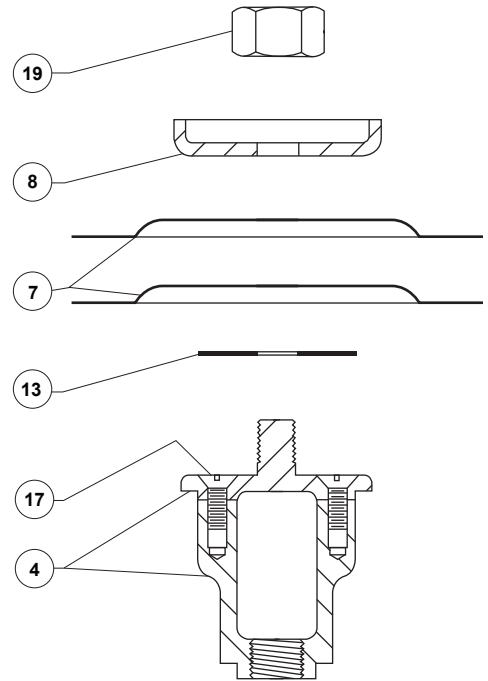

Figure 5. Exploded View of The Diaphragm Head Assembly and Yoke
1. Loosen the locknut (key 18).
2. Turn the adjusting screw (key 15) counterclockwise to remove spring compression.
3. Remove the bottom cap (key 3), bottom cap O-ring (key 14) and spring (key 10).
4. Unthread the valve disk assembly (key 6) from the yoke (key 4).
5. Remove the valve disk collar (key 22) from the valve disk assembly.
6. Remove the spring case cap screws (key 16), and separate the spring case (key 2) from the body (key 1).
8. Refer to Figure 5. Unscrew the diaphragm locknut (key 19), and remove the diaphragm plate (key 8), the two diaphragms (key 7) and the diaphragm plate gasket (key 13).
9. Remove the screws (key 17) from the yoke, and take the lower and upper halves of the yoke out
1. Screw the orifice (key 5) into the regulator.
2. Insert both halves of the yoke (key 4) into the regulator, and fasten them together with the screws (key 17). The yoke halves are a matched set and need to be kept together.
3. The valve disk assembly (key 6) has two valve disks, one on each end. Inspect both valve disks, and select the one to be used. Thread the valve disk assembly into the yoke so that the disk to be used is positioned against the orifice. Thread the valve disk collar (key 22) onto the exposed end of the valve disk assembly.
4. Place the bottom cap O-ring (key 14) on the bottom cap (key 3). Place the spring (key 10) in the bottom cap, and thread it into the regulator.
5. Put the body gasket (key 12) on the regulator body (key 1).
6. Refer to Figure 5. Place the diaphragm plate gasket (key 13), two diaphragms (key 7), and the diaphragm plate (key 8) on the yoke (key 4). Make sure the diaphragm convolutions are toward the spring, and secure the parts by threading the diaphragm locknut (key 19) onto the yoke.
7. Place the regulator spring (key 11) and upper spring seat (key 9) on the diaphragm plate.
8. Position the spring case (key 2) over the spring and on the regulator body. Orient the spring case vent or vents as necessary. Insert the cap screws (key 16), and tighten them only finger-tight.
9. Thread the adjusting screw and locknut (keys 15 and 18) into the spring case just far enough to slightly compress the spring. Securely tighten the cap screws (key 16), and refer to the Startup section for adjustment procedures.